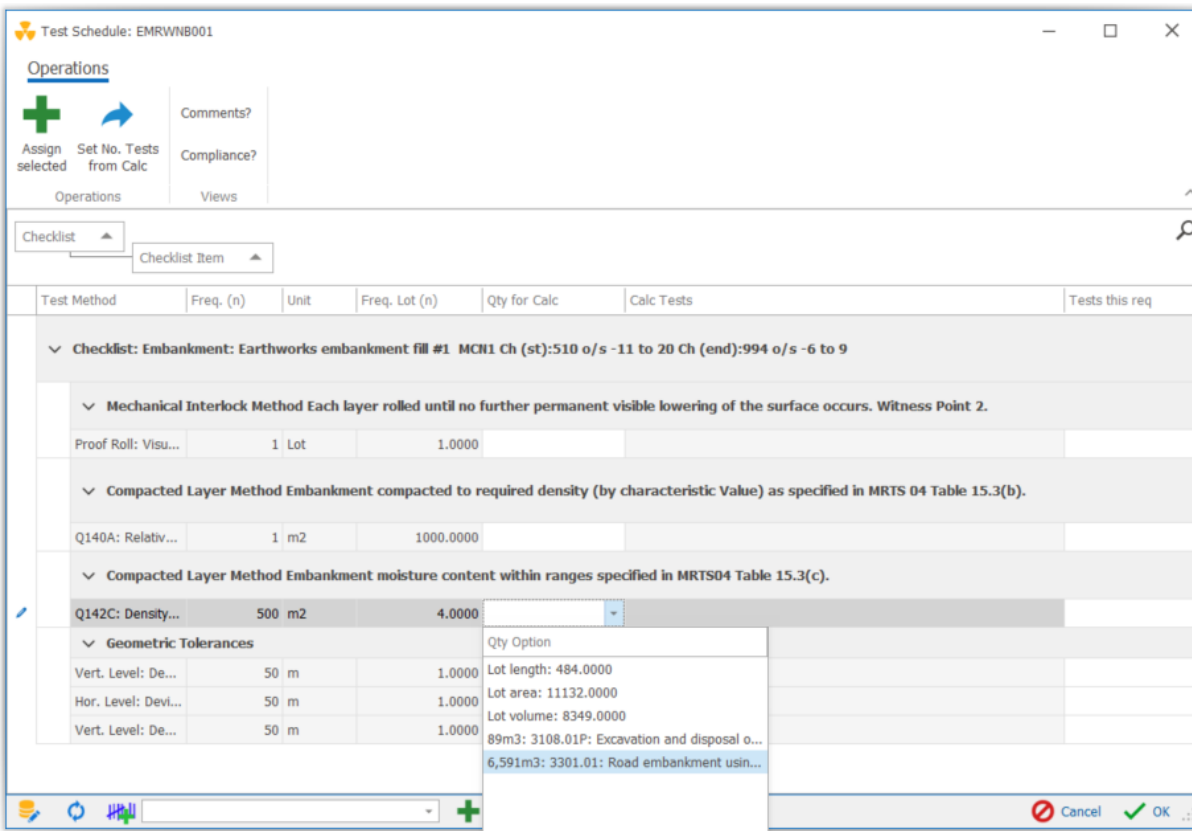

Figure 100 Selecting Test & Qty for Calc
7. The Test Schedule dialog will appear. Select the test from the list (Q142C) and from the Qty for Calc dropdown select 6591m2 (Figure 100) and press OK.